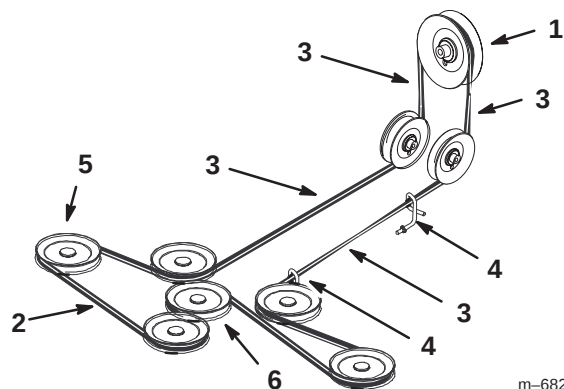

Figure 72
- Install the new mower belt around the mower spindle pulleys, mower idler pulley, into the belt guides, into rear idler arm assembly, and the clutch (Fig. 72).
Important Check the amount of twist in the belt between the pulleys. Make sure it is only what is specified in Figure 72.